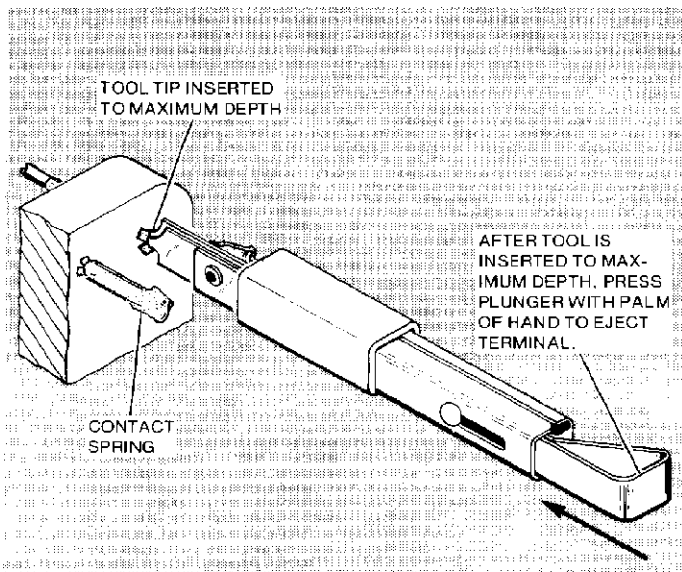

Figure 2
- (f) After either tool No. 69261-3 or tool No. 69261-2 is inserted to the maximum depth, press plunger with palm of hand. See Figure 2. Terminal will be ejected by pressure of tip of tool against wire stop inside terminal.